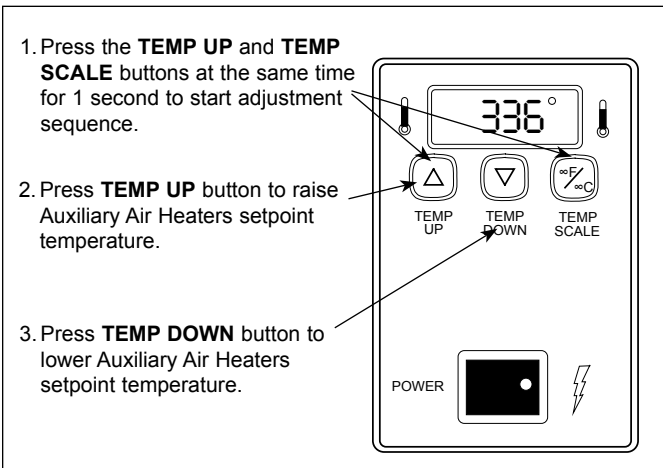

Figure 6. Auxiliary Air Heaters Setpoint Temperature
2. Press and hold both **TEMP UP** and **TEMP SCALE** buttons for over 1 second until the display flashes the setpoint temperature, then release (Figure 6).